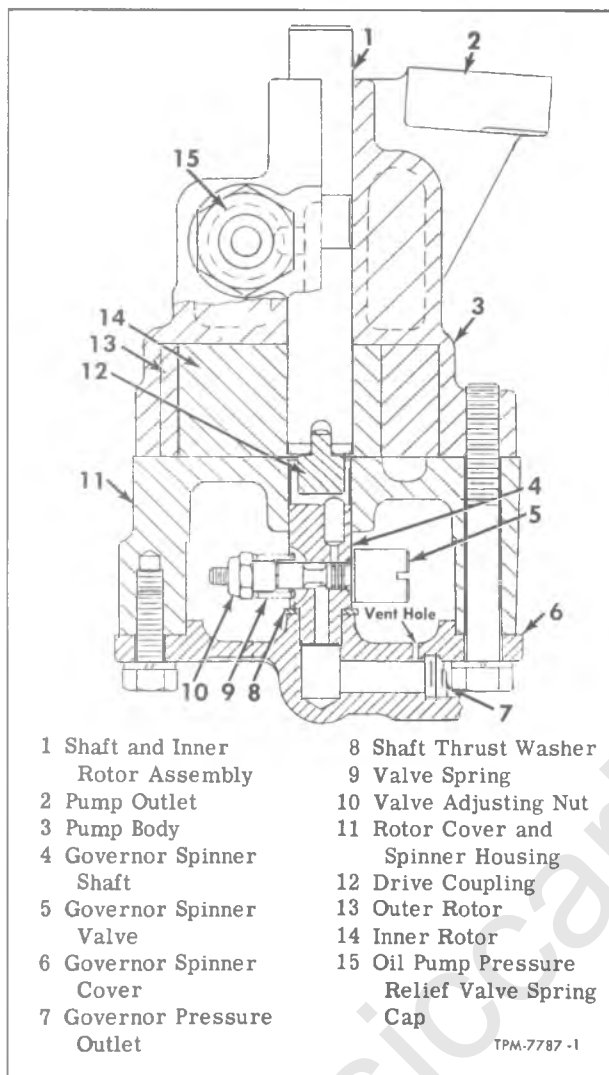

Figure 43—Engine Oil Pump with Hydraulic Governor
3. To change engine rpm, hold weight with screwdriver while turning nut (10, fig. 43). Tightening nut 1/8 turn increases engine speed approximately 100 rpm. Loosening nut 1/8 turn lowers engine governed speed approximately 100 rpm.